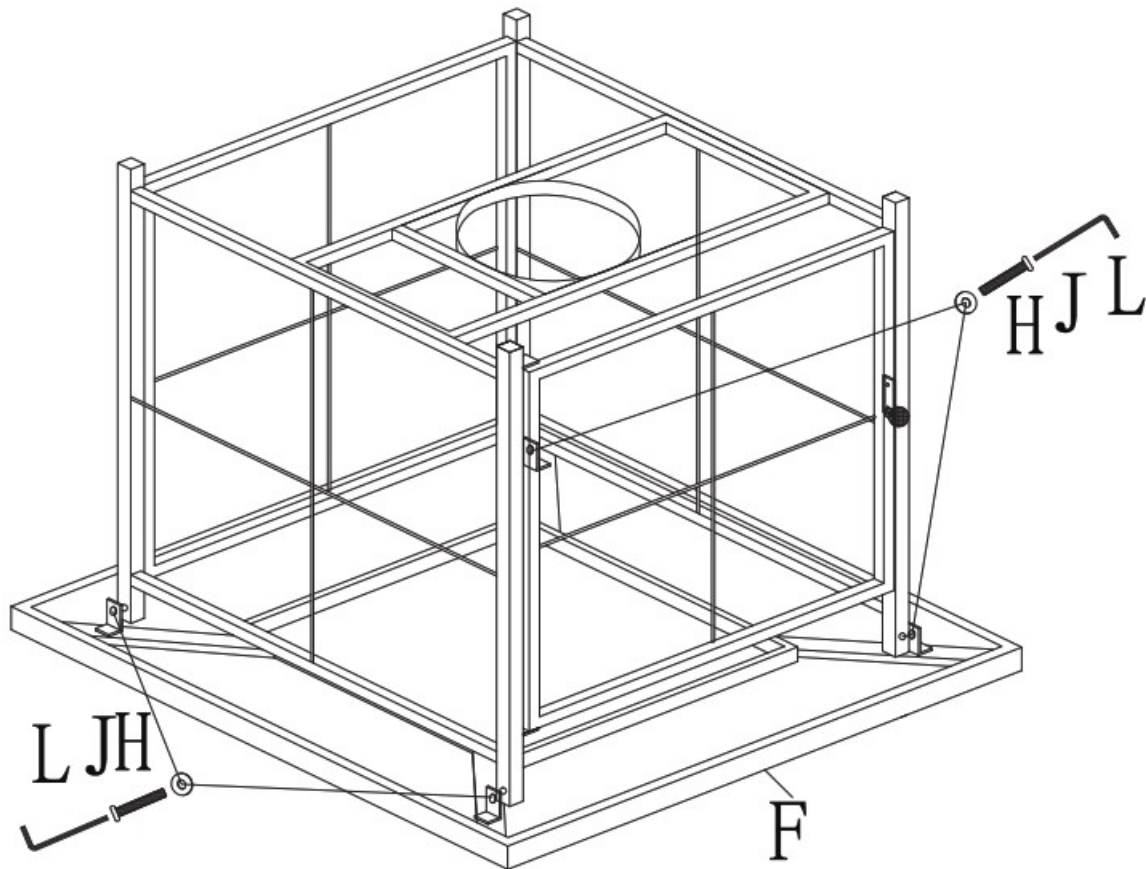

Figure 7
STEP 5: Keep the table top upside down as Figure 7. Attach the table top (F) to side panels by 4 bolts (J) and washers (H) by Hex key (L). Verify the alignment and adjust, then fully tighten all the bolts